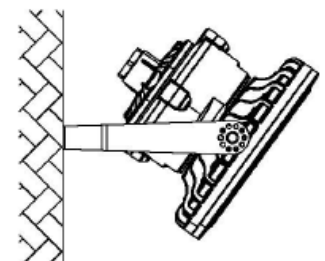

Fig. 5
6. After installation, connect wiring with suitably listed vapour tight fitting and conduit as per local code. Ensure all joints, threads are properly sealed. Yoke can be adjusted up to 90° to the left or right from vertical position by adjusting the screw on the yoke bracket (Fig. 5, Fig. 6).